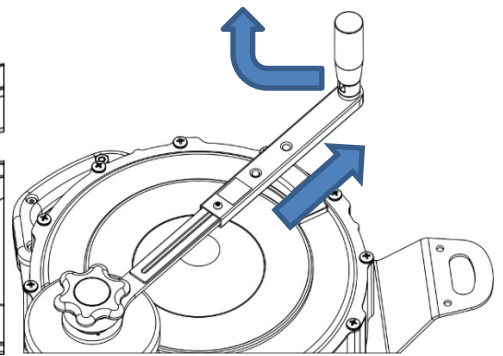

Figure 4
3. Flip the crank grip up 90 degrees until it is locked in position, and extend the crank grip into either the first position for faster cranking, or the second position for heavier loads. See *figure 4*.